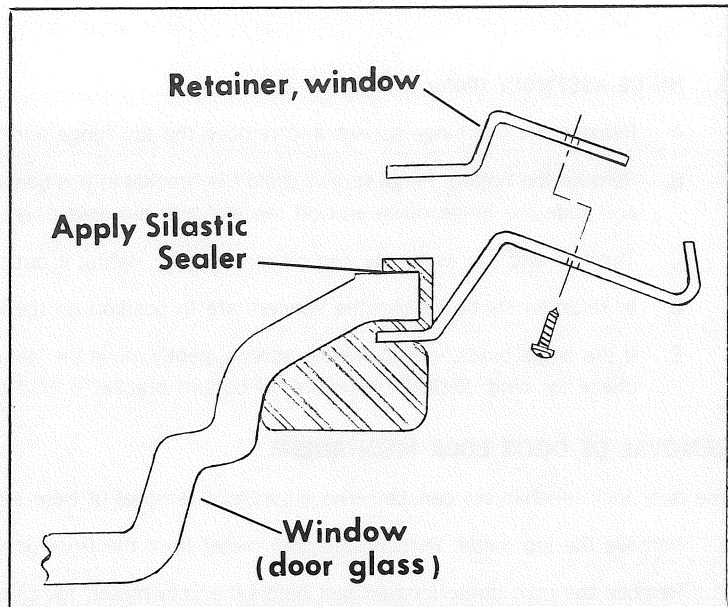

FIGURE 3-4
3. Place the window (door glass) into the door sealing gasket. Using a small pick or screw driver, lift the rubber channel of the gasket up and around the outer ridge of the window. (See Figure 3-4)